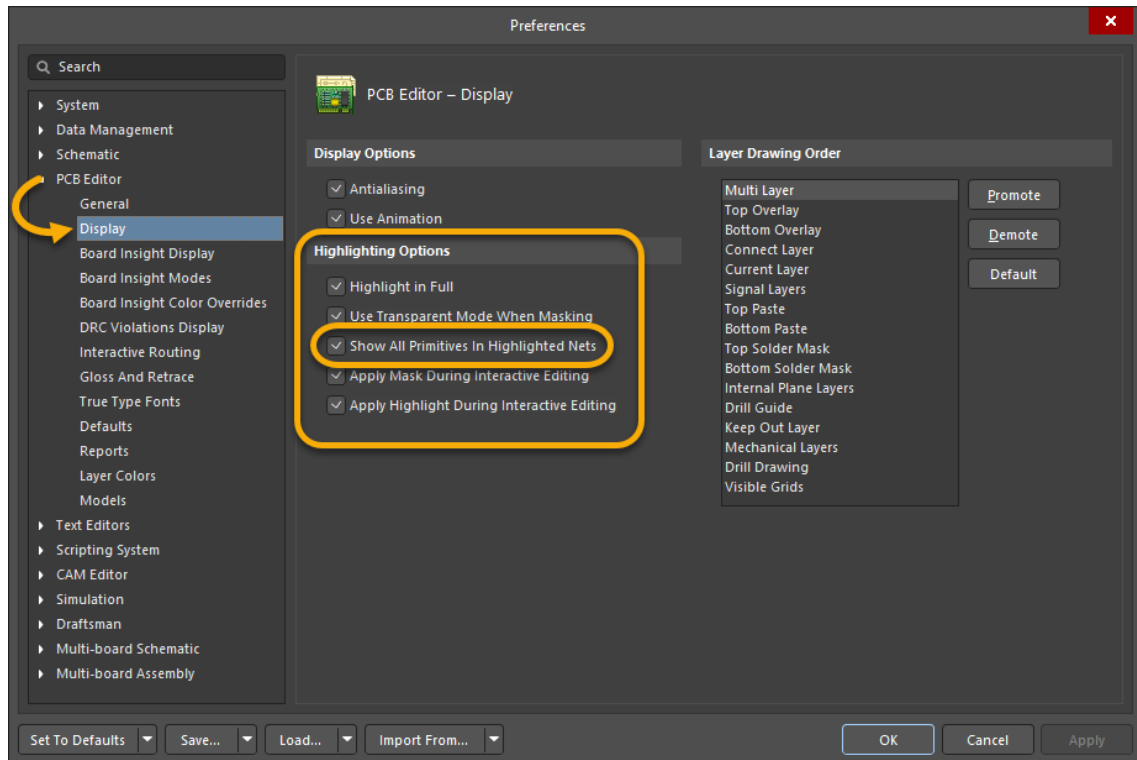

Figure 20. Highlighting options for PCB
- a) Enable all of the options, Figure 20.